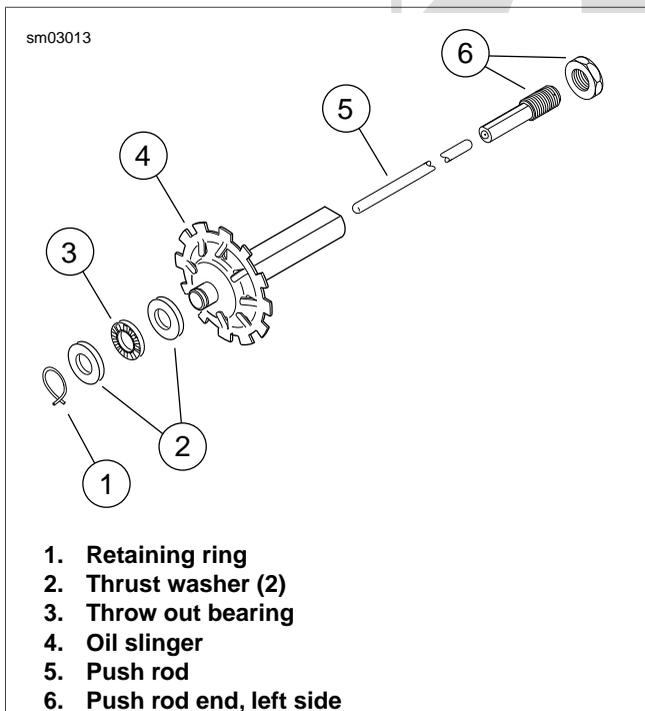

Figure 7-7. Push Rod Assembly
5. See Figure 7-7. Remove oil slinger assembly from mainshaft. Insert long rod through mainshaft bore and remove push rod.